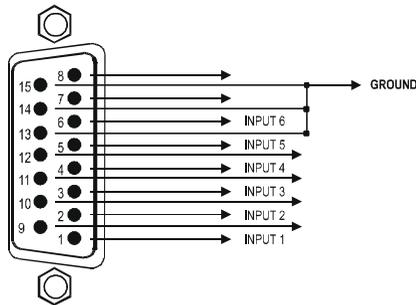

Figure 3: Control via the Remote Socket on the Back Panel
- Direct remote contact closure via a remote socket on the back panel (see Figure 3)